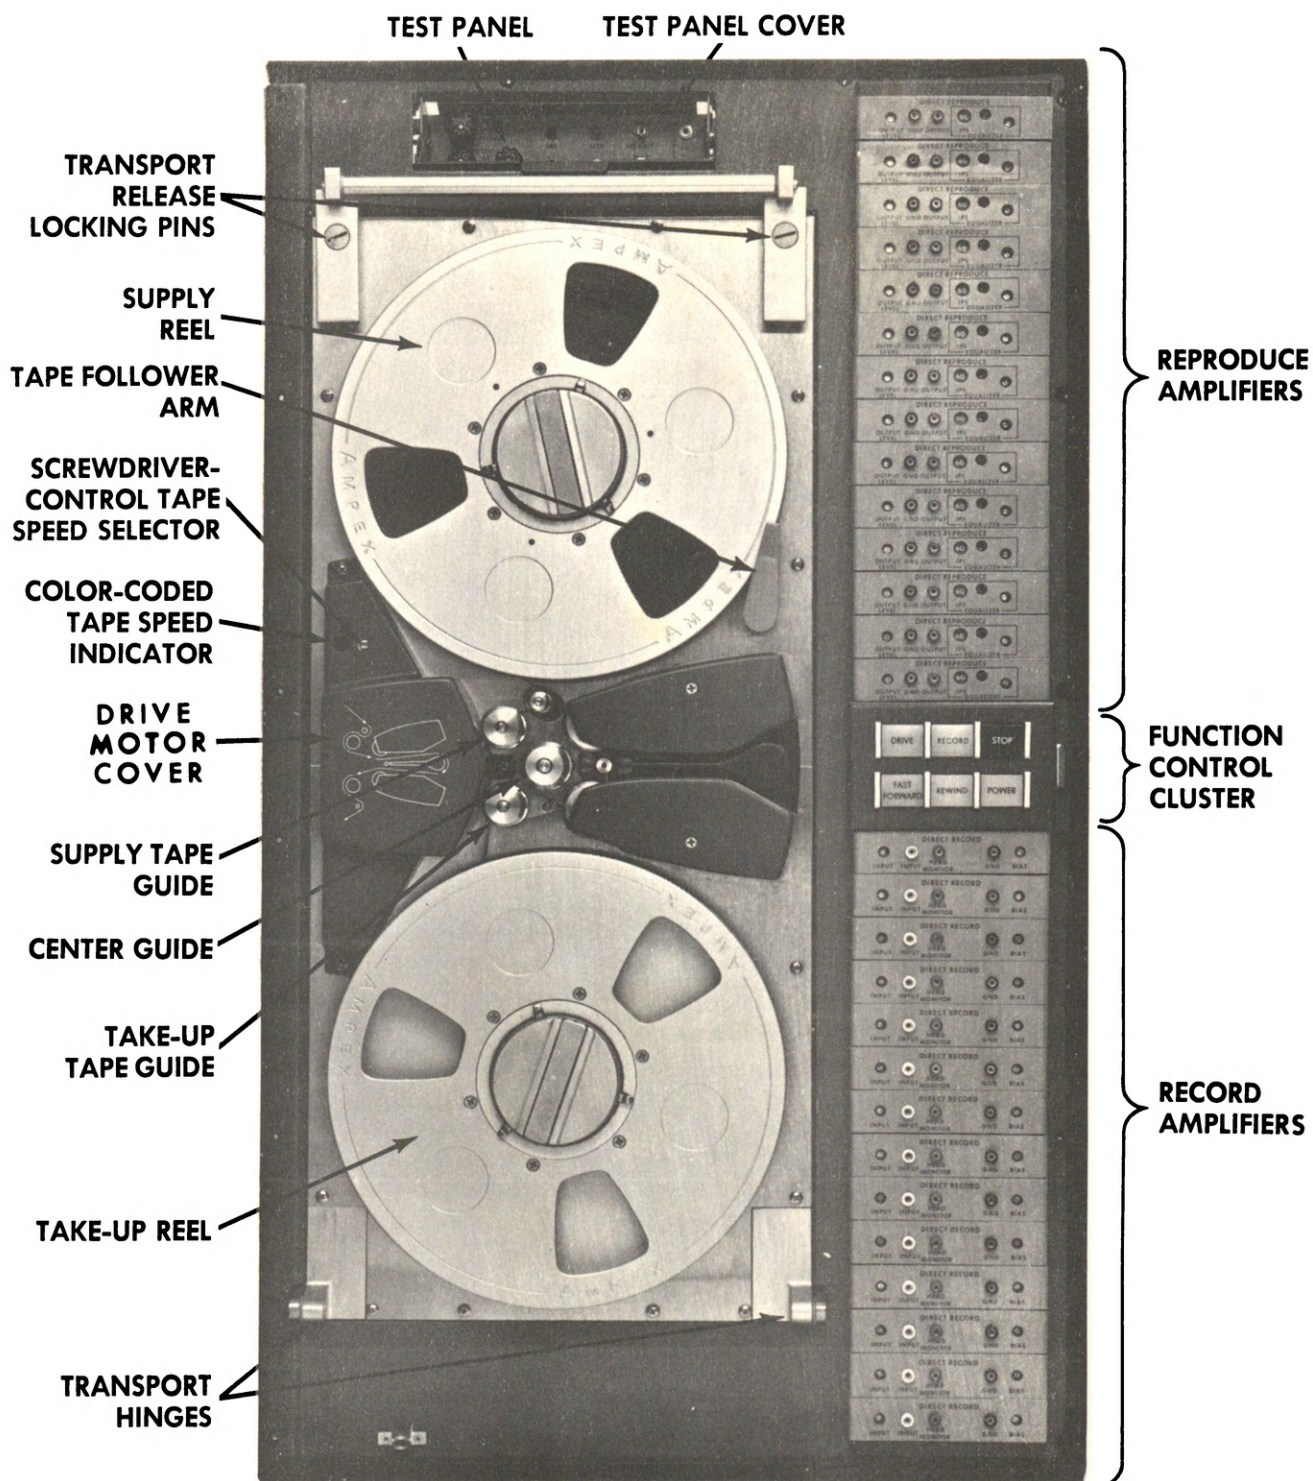

Figure 1-1. Front View of Tape Transport
means of field modifications, information for which can be obtained by consulting the AMPEX Service Engineering Department). Reels with NARTB hubs, up to 10-1/2 inches in diameter can be accommodated on the Tape Transport. Figures 1-1 and 1-2 show the front and rear views respectively.
1.11 **CONTROLS.** Local: The Tape Transport is controlled locally by six backlighted pushbuttons which provide POWER, DRIVE, RECORD, FAST FORWARD, REWIND and STOP functions (see figure 1-1). A TEST-OPERATE switch provides power to check the amplifiers without running the tape transport. A BIAS DISABLE switch enables signal head currents to be measured at the HEAD MONITOR jacks. Control functions are interlocked and have mode
1.14 **RECORD AMPLIFIERS.** All Record Amplifiers, regardless of type, are constructed on plug-in circuit cards which mate with matching receptacle connectors in the card rack located on one side of the control cluster (see figure 1-1). Amplifiers are available for Direct, FM and PDM applications.
1.19 **REPRODUCE AMPLIFIERS.** The Reproduce Amplifier Cards (see figure 1-1) plug into the card rack on one side of the control cluster.